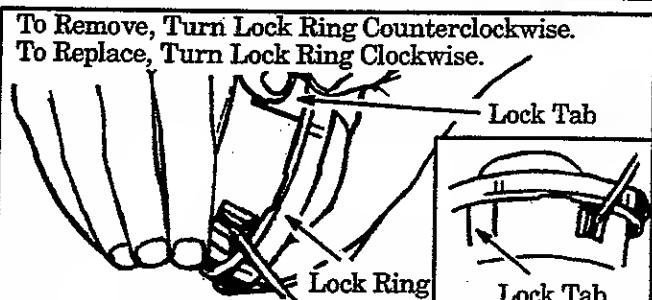

Figure 15
- Press lock tab and turn lock ring. Figure 15 .
- Align the lock ring over the three catches on the hub. Push the lock ring down on the hub and turn as shown in Figure 15 .